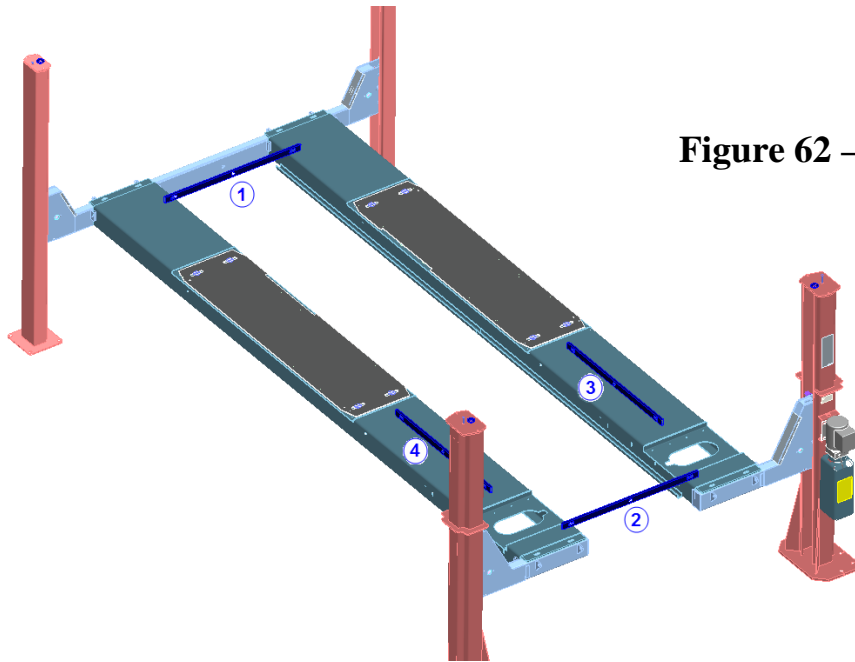

Figure 62 – Deck Leveling
- Using a 4' level, check the level of the decks front to rear and side to side as shown in **Fig.62**.